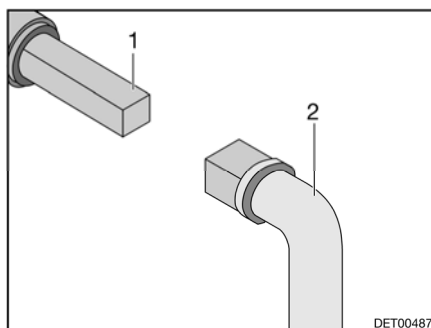

Fig. 196 Operation of the waste water tap
- Place key (Fig. 196,2) onto the square bolt (Fig. 196,1).